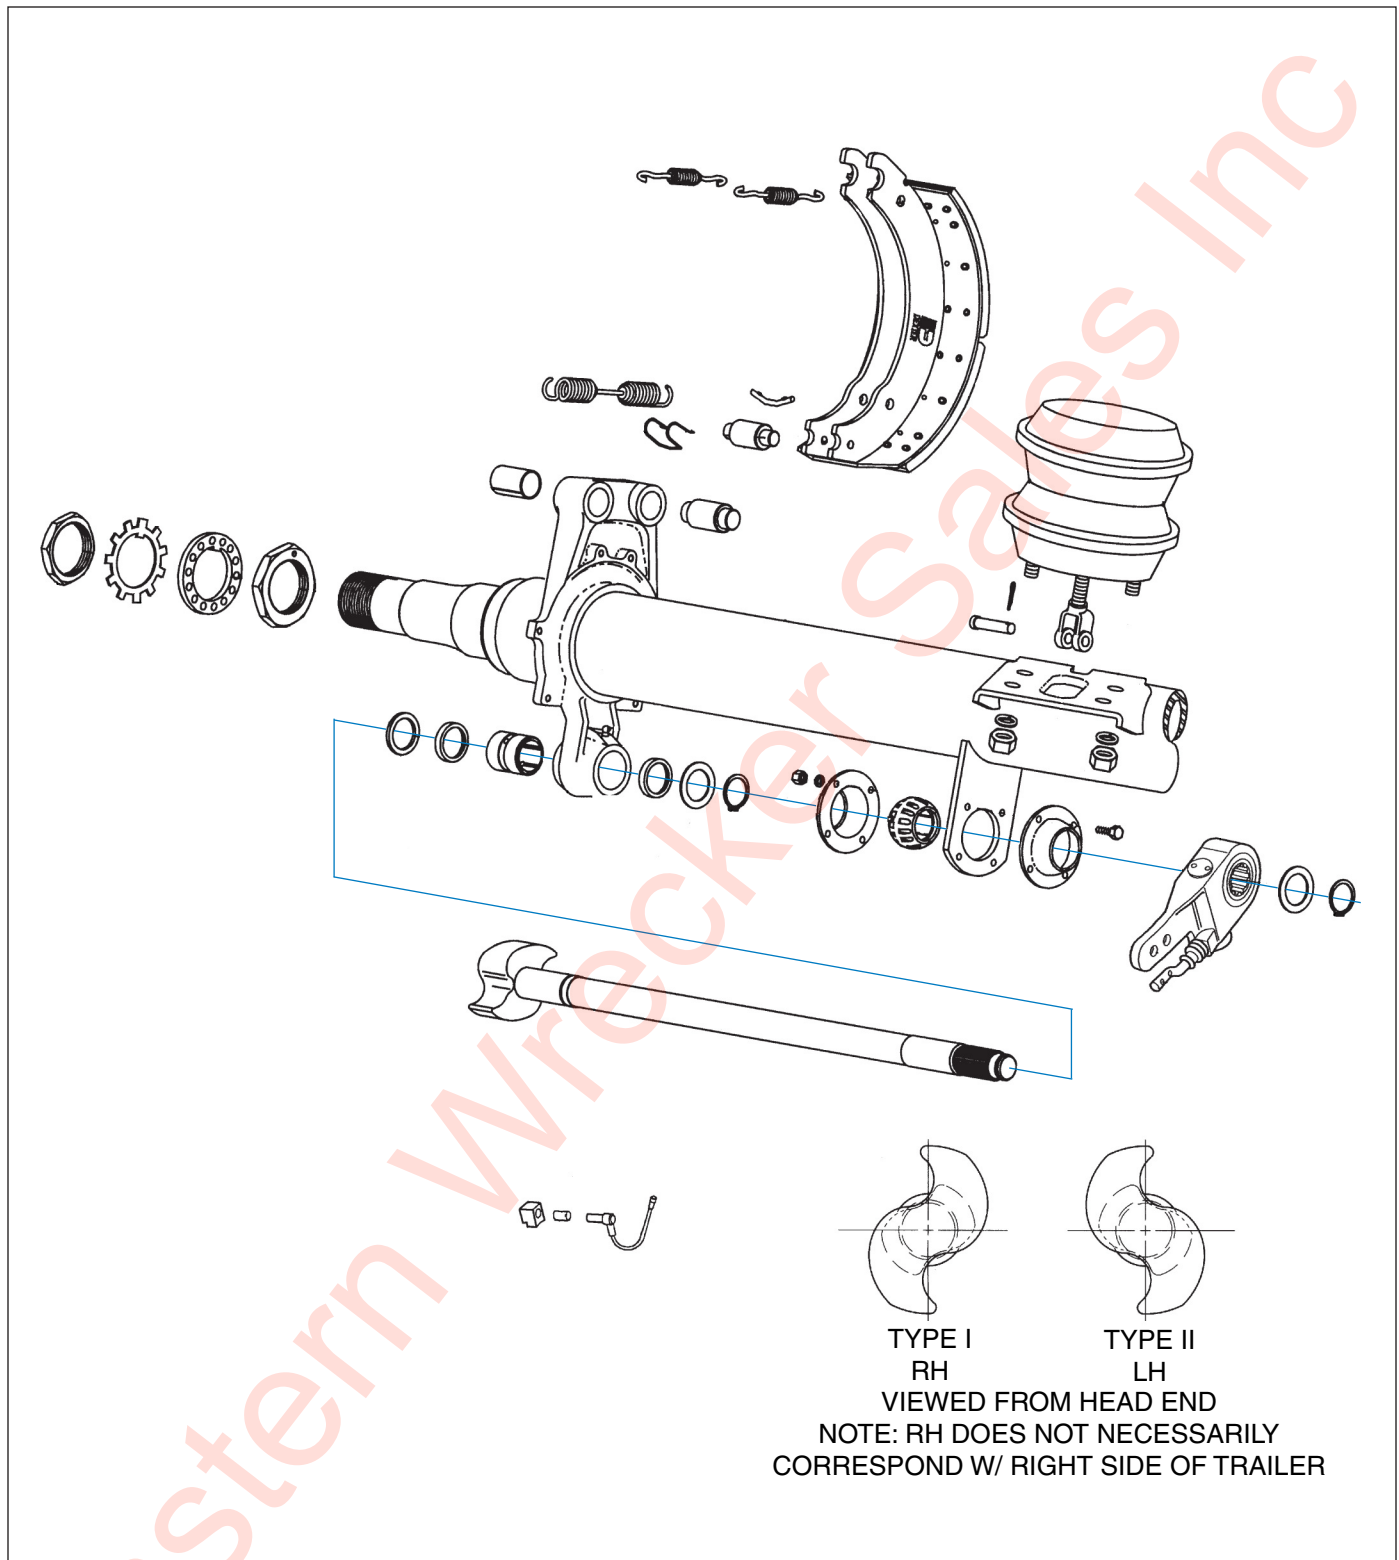

Figure 4-11: Axle and Brake Assembly
4. Remount the brake chamber on the axle brackets and reconnect the air service hoses and the slack adjuster connecting rod (*See Figure 4-11*)
1. Release brakes and back off slack adjuster (*See Figure 4-11*)